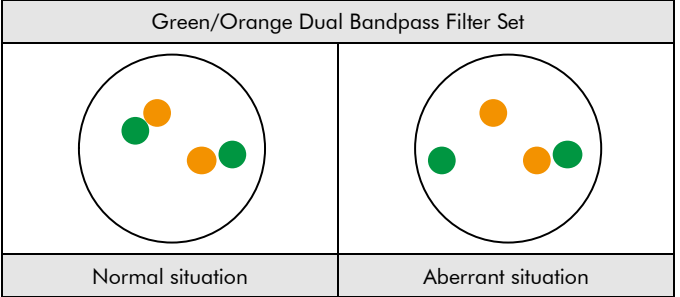

Fig. 2: Expected results in normal and aberrant nuclei
**Normal situation:** In interphases of normal cells or cells without a translocation involving the MAML2 gene region, two green/orange fusion signals appear (see Fig. 2).
**Aberrant situation:** One MAML2 gene region affected by a translocation is indicated by one separate green signal and one separate orange signal (see Fig. 2).